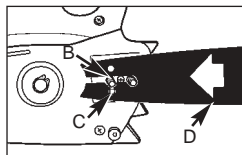

Fig. 3B
- Place the slotted end of the guide bar over the bar bolts so the Tang (B) fits into the lower hole (C) in the guide bar (D). (See Fig. 3B)
- Holding the nose of the bar up, use the screwdriver or wrench if provided in your User's Kit to turn the guide bar adjustment screw (F) (Fig. 3B) clockwise to tighten the chain. Turning the screw COUNTERCLOCKWISE LOOSENS THE CHAIN on the guide bar.